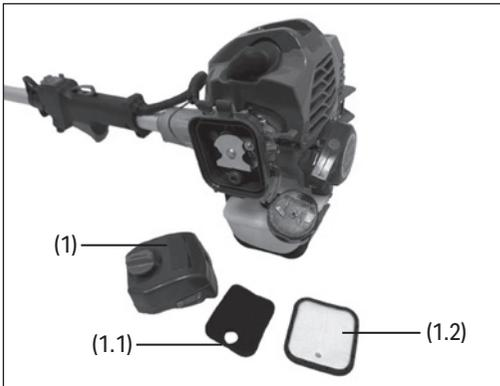

Fig.22
10.2 Cleaning the Air Filter (Fig.22)